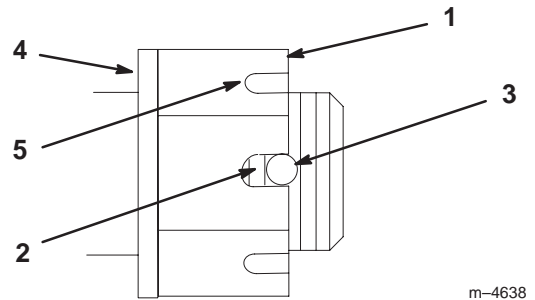

Figure 48
3. Torque the slotted nut to 125 ft.-lb. (170 N·m) (Fig. 48).
4. Check the distance from the bottom of the slot in the nut to the inside edge of the hole. Two threads or less should be showing (Fig. 48).
5. If more than two threads are showing, remove the nut and install a washer between the hub and nut (Fig. 48).
6. Torque the slotted nut to 125 ft.-lb. (170 N·m) (Fig. 48).
7. Tighten the nut until the next set of slots line up with the hole in the shaft (Fig. 48).